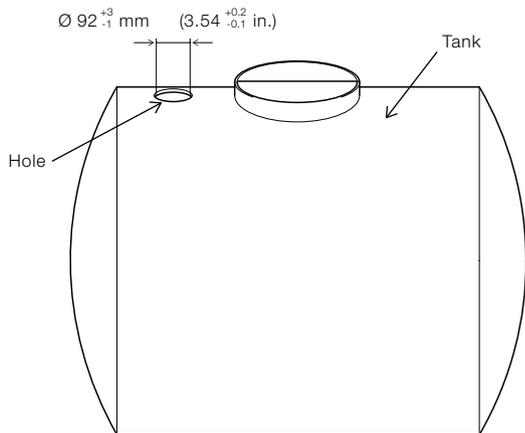

Fig. 2.4: Tank with a hole at the highest point of the tank's surface
1. Referring to Fig. 2.4, make a 92^{+3}_{-1} mm ($3.54^{+0.2}_{-0.1}$ in.) hole at the top of the tank using a hole puncher or other machining method. Locate the hole: